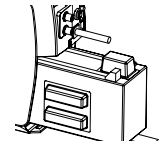

Fig. 2
2. Disconnect the insulated connectors from the battery terminals (Fig. 2)